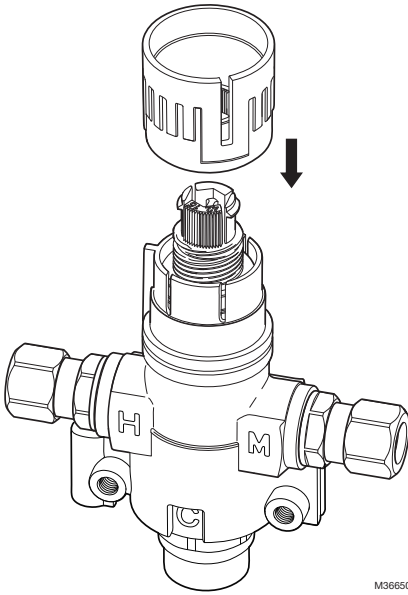

Fig. 4. Place handwheel on adjustment rod.
3. Use the cap upside down to adjust the outlet temperature with a thermometer under the faucet. Turn the hand wheel clockwise for cooler temperatures and counterclockwise for warmer temperatures. See Fig. 4 and 5.